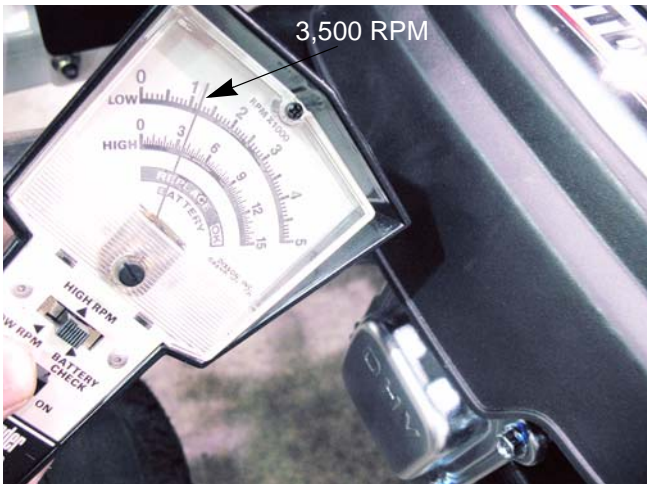

Figure 3.15
- H. Engine performance: See Figure 3.15.